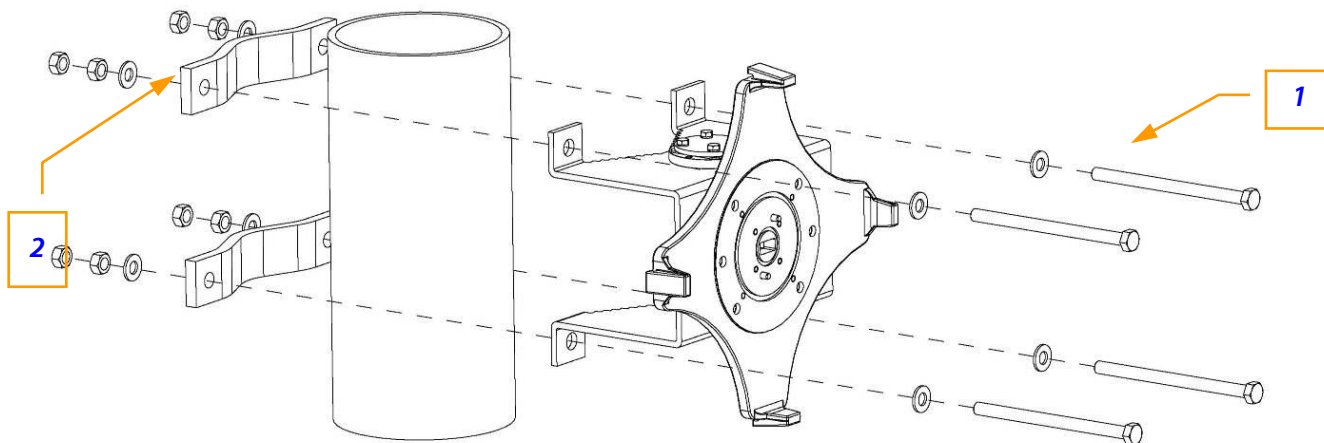

Figure 4.3-2 : Pole mounting installation for ODU not integrated to antenna
- Position the bolts (1) and pole clamps (2) (see Fig.4.3-2) on the pole and fit the washers, nuts and lock nuts